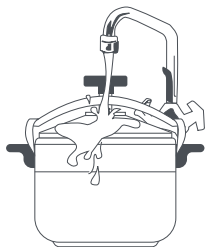

Fig. 12
With the pot in the sink, let cold water run over the lid (1) and tilt the lid so that cold water runs down the sides, away from the safety systems (Fig. 12).